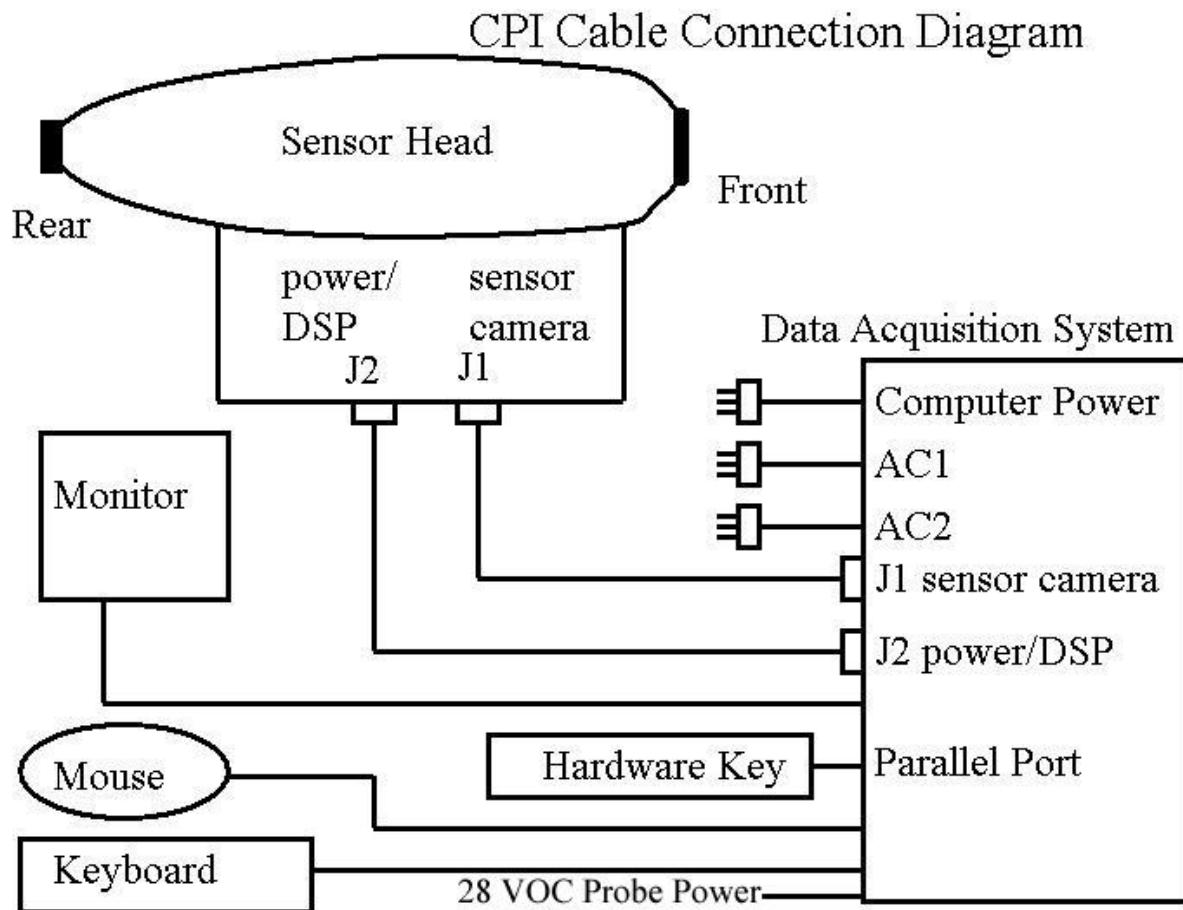

Figure 2.2.2 3V-CPI Cable Connection Diagram
2. Connect the Computer Power, AC1, and AC2 power cables to a 115 Volt AC source. The order of connection of the AC power cables is not important. **Figure 2.2.2** shows the 3V-CPI Cable Connection Diagram and **Figure 2.2.3** shows the back of the Data Acquisition System including the function of each outlet.
3. Connect the power cable to J2 on the Data Acquisition System. See **Figure 2.2.2:** 3V-CPI Cable Connection Diagram and **Figure 2.2.4:** Connecting the power to the Data Acquisition System.
11. Connect the Computer Power, AC1, and AC2 to the back of the Data Acquisition System. See **Figure 2.2.2**: 3V-CPI Cable Connection Diagram and **Figure 2.2.11**: Connecting the computer power and Sensor AC1 & AC2 power.
3. Connect the mouse, keyboard, and monitor to the back of the Data Acquisition System. See **Figure 2.2.2**: 3V-CPI Cable Connection Diagram and **Figure 2.2.3**: Back of the Data Acquisition System.